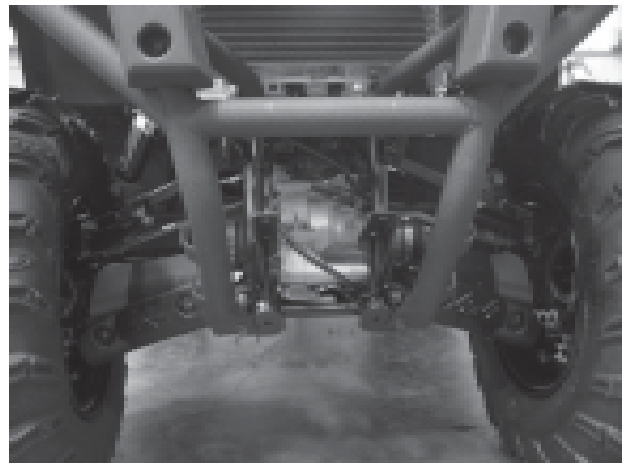

Figure 2: Remove skid plate
2. Remove front skid plate. See Figure 2.